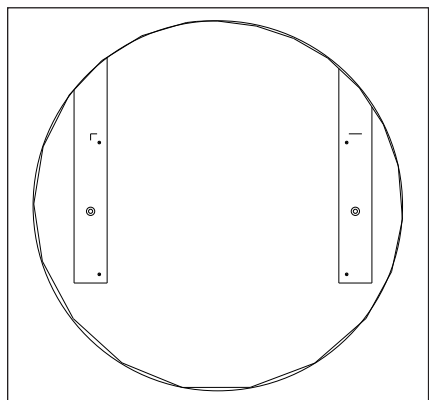

Figure 3: Pre-Drill Holes into Tube
3. Mark the mounting holes in the first panel for pre-drilling. Refer to **Figure 3**.
4. Pre-drill holes into the tube at the marked mounting locations. Refer to **Figure 3**.